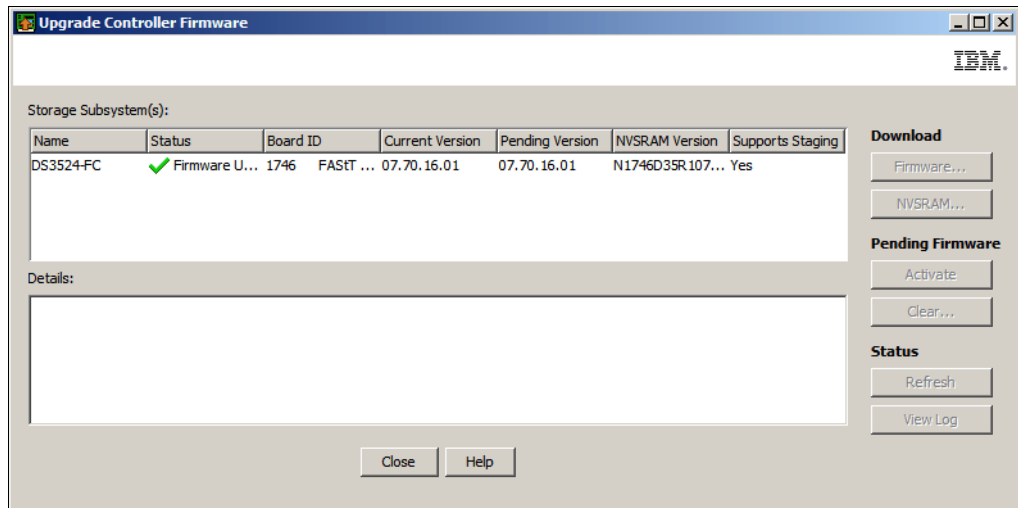

Figure 14-51 Firmware activated successfully
- g. The activation process can take some time to complete, but the status of the process can be monitored in the tool. Figure 14-51 on page 365 shows the status after the firmware has been successfully activated.